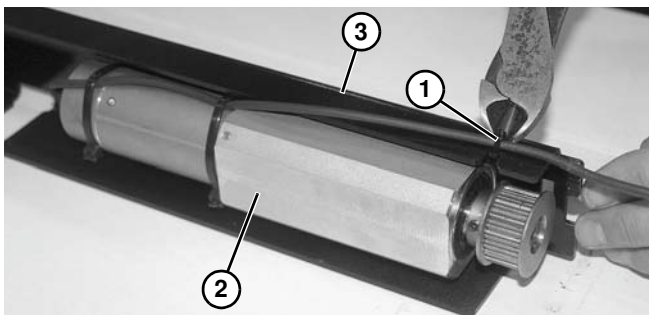

Figure 204
12. Cut tie strap (**Figure 204, item 1**) securing motor (**Figure 204, item 2**) onto crossmember (**Figure 204, item 3**).